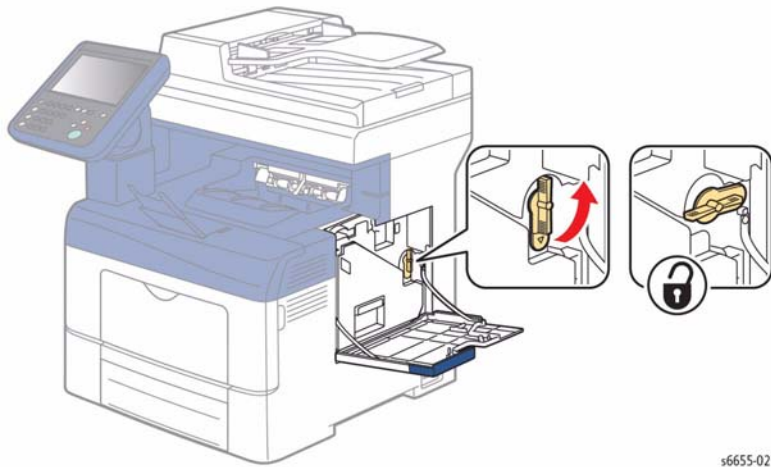

Figure 2 Unlock the Waste Cartridge
2. To unlock the waste cartridge, turn the waste cartridge lever 90-degrees counterclockwise, Figure 2.